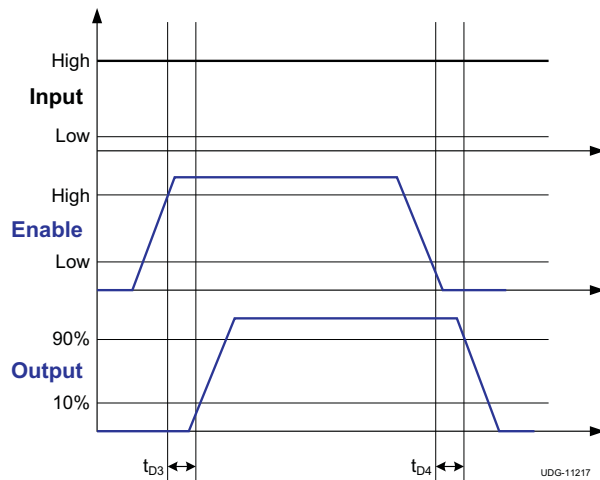
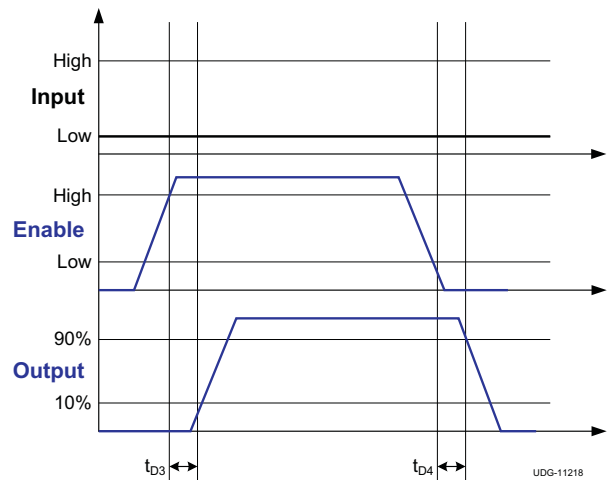
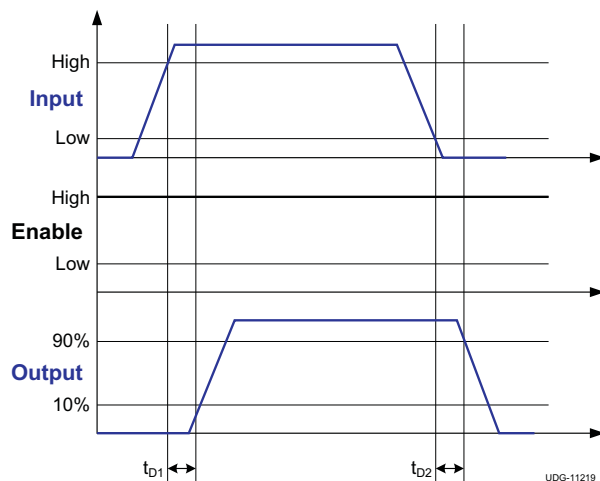
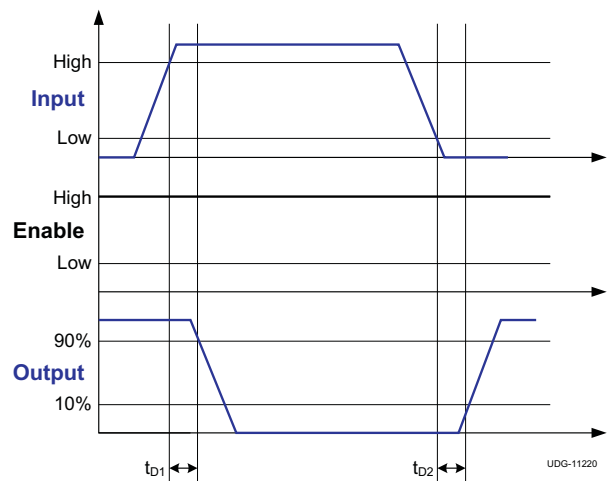

**Figure 1. Enable Function
**Figure 2. Enable Function
Figure 3. Non-Inverting Input Driver Operation
Figure 4. Inverting Input Driver Operation
(1) See timing diagrams in Figure 1, Figure 2, Figure 3, and Figure 4